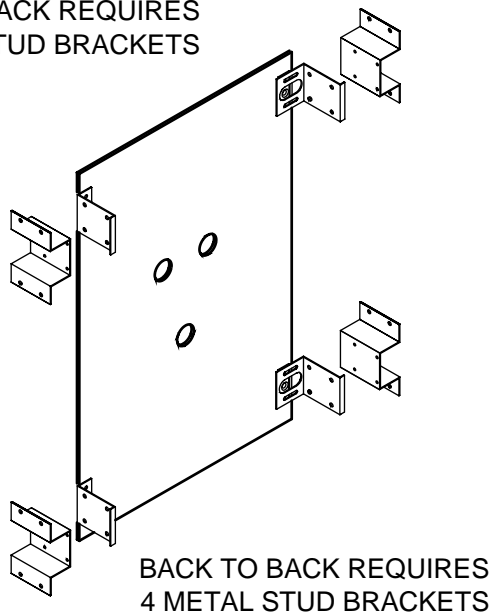

fig. 12
3. If the studs are face to back, attach the Metal Stud Mounting Brackets to both adjustable brackets on the Installation Aid (stud opening) with #8 -32 x 1/8" pan-head Phillips sheet metal screws. Apply sealant between metal parts to prevent vibration. **DO NOT TIGHTEN.** (please see fig. 12)